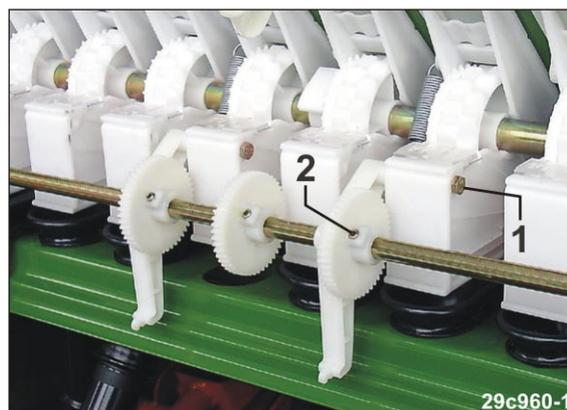

Fig. 226
4. Remove (Fig. 226/1) bolts.
5. Loosen the hexagon socket screws (Fig. 226/2).